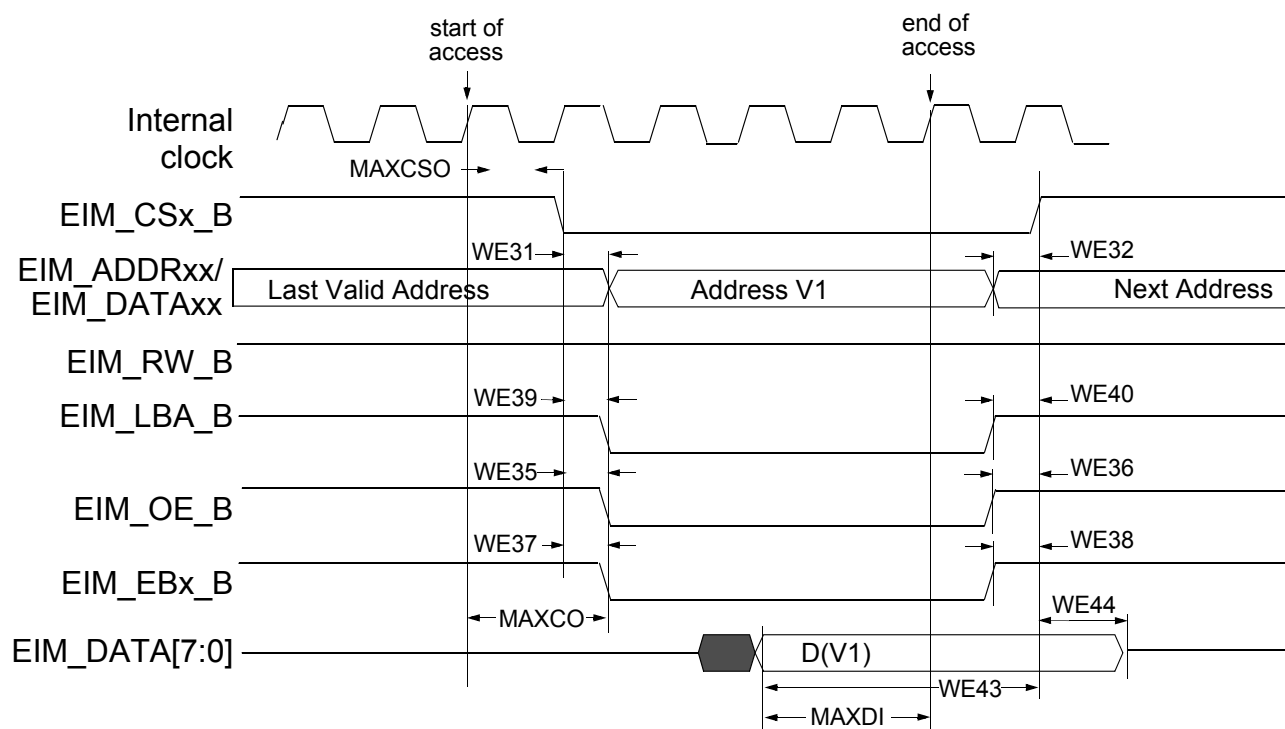
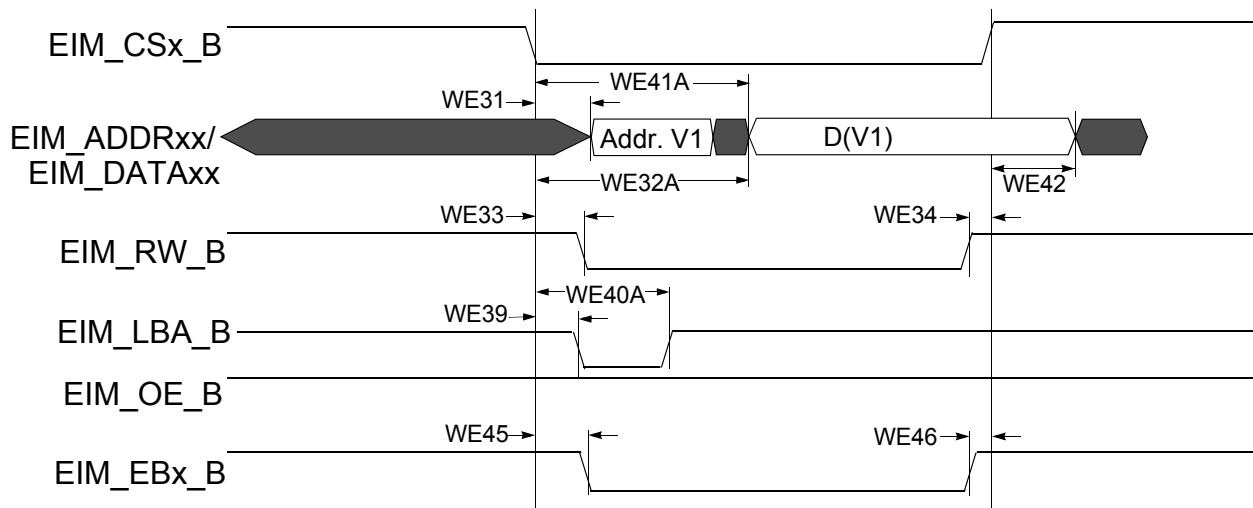
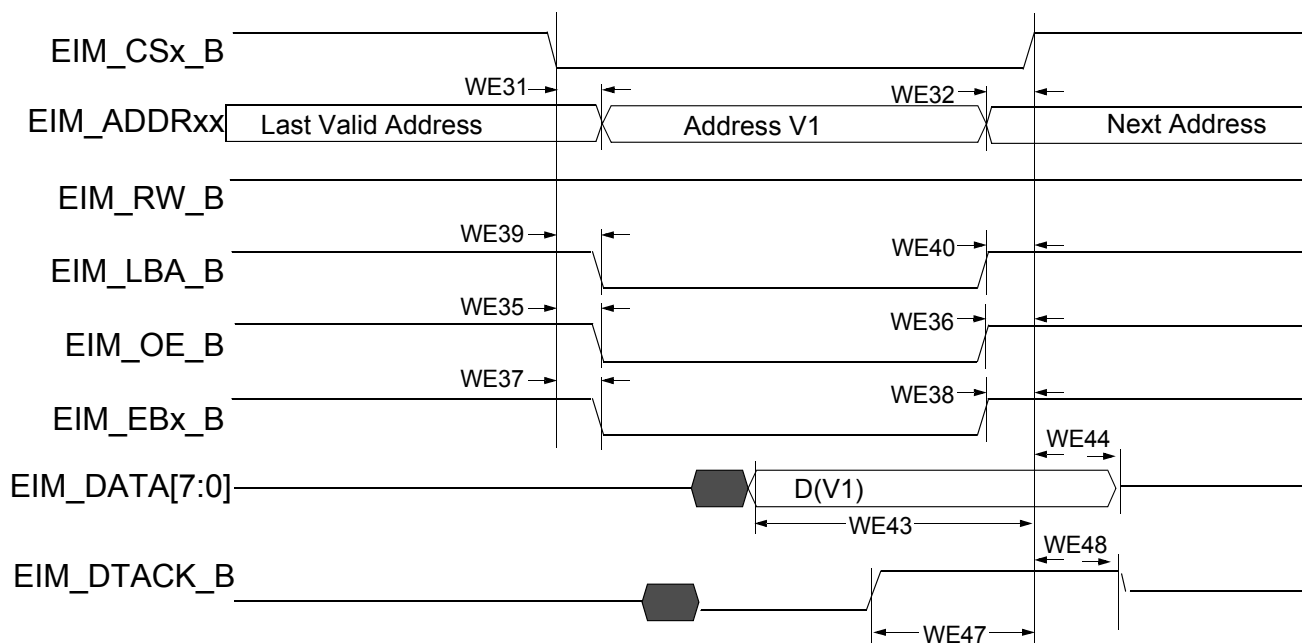

Figure 16. Asynchronous Memory Read Access (RWSC = 5)
Figure 19. Asynchronous A/D Muxed Write Access
Figure 20. DTACK Read Access (DAP=0)
Figure 16 through Figure 20, and Table 37 help you determine timing parameters relative to the chip select (CS) state for asynchronous and DTACK EIM accesses with corresponding EIM bit fields and the timing parameters mentioned above.
Asynchronous read and write access length in cycles may vary from what is shown in Figure 16 through Figure 19 as RWSC, OEN & CSN is configured differently. See the i.MX 6SoloLite reference manual for the EIM programming model.